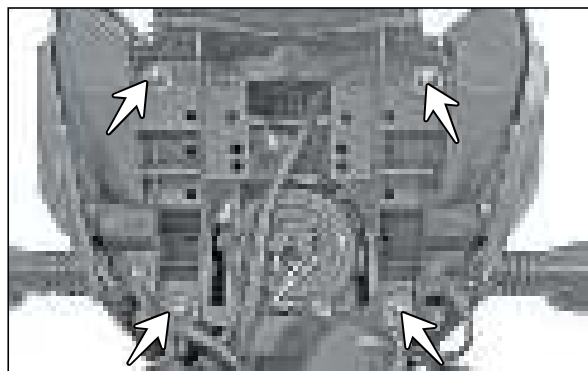

Fig. 5.77
- Remove the hexagonal nuts (M6 - 4 Nos.) from the bracket housing head lamp along with the punched washer. (Fig. 5.77)